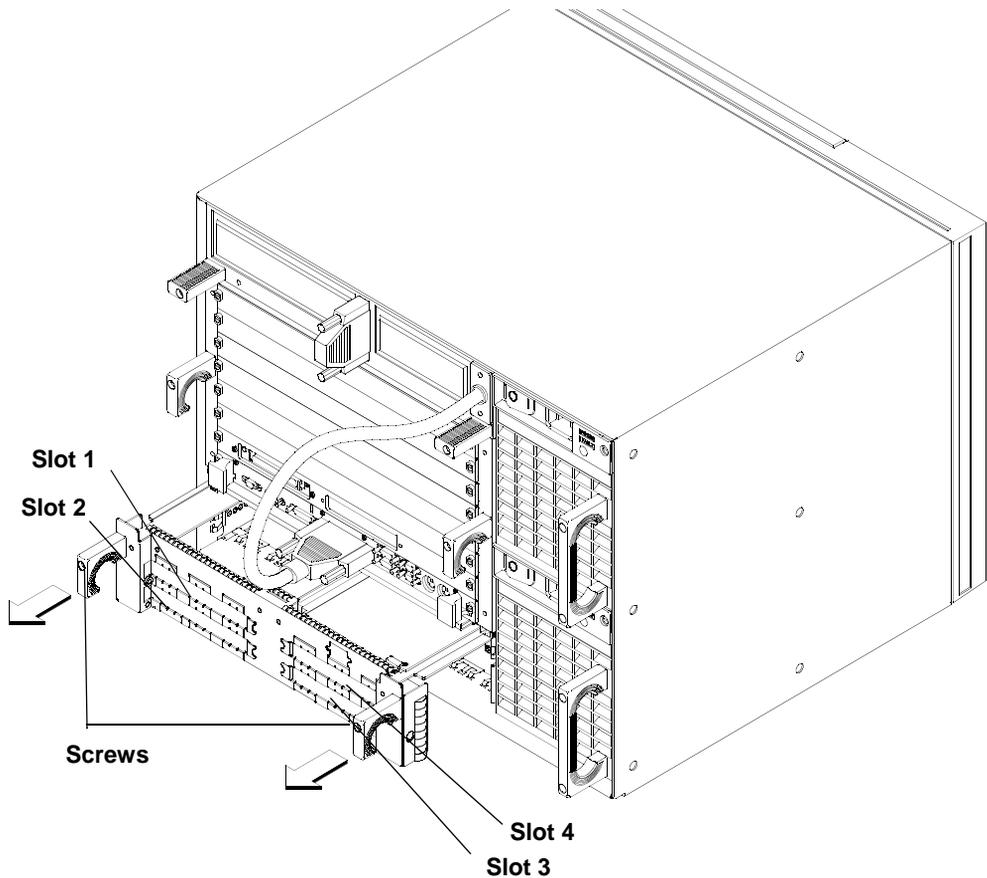

Figure 4-1 **Removing the EISA Tray**
- 4** Grasp the EISA module handles and pull the EISA module out of the chassis, as shown in Figure 4-1.